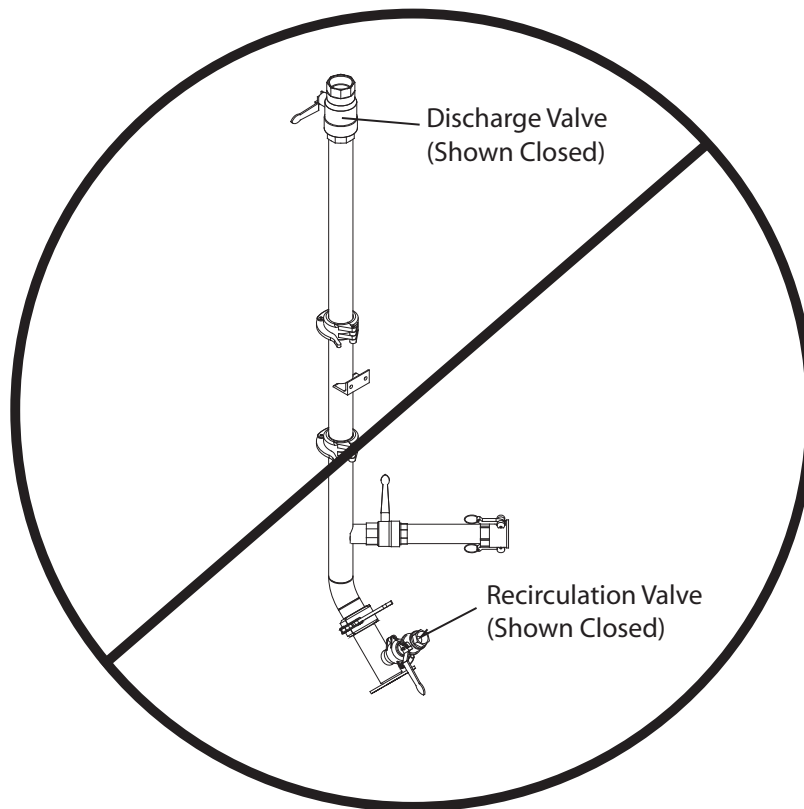

Figure 2 – NEVER Engage (Turn On) Slurry Pump Clutch w/ Both Valves Closed
1. Discharge hoses: Discharge hoses are available in 50 ft (15 m) and 100 ft (30 m) lengths up to a total of 150 ft (45 m). Hose of a greater length may adversely affect the discharge distance and the discharge time of the HydroSeeder®. All connections are camlock, quick-operating fittings, including the connection to the end of the discharge piping. A nozzle is connected to the end of the hose, next to the remote discharge valve. Once the hose is connected, the HydroSeeder® is ready to operate. Flow through the hose and the nozzle is controlled by the remote discharge valve. When using this valve, the recirculation valve on the HydroSeeder **MUST BE OPEN** to allow flow at times when the remote valve is closed. (See Figure 2 on page 10.)
Never engage (turn on) slurry pump clutch when both valve handles are positioned as shown in Figure 2. If both valves are closed, a situation of extreme heat generation would result. Failure to comply could result in death or serious injury. Failure to comply could also result in product or property damage.